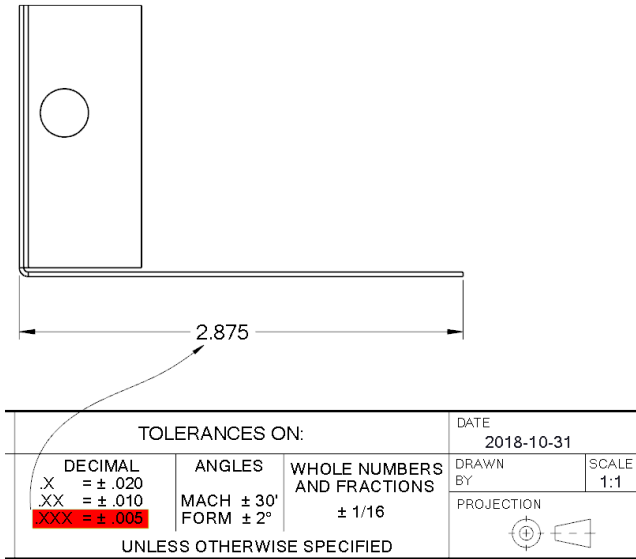

Figure 2a;
- 3) DON'T rely solely on the default tolerance table! Besides specifying the tolerance based on the number of decimal places, the same table almost always states UNLESS OTHERWISE SPECIFIED. Even if you have modified your default tolerance table (as suggested in points 1 & 2 above), there may be features that can afford greater tolerances (that may otherwise be cost-drivers). If so, override (..OTHERWISE SPECIFY...) the default tolerance by adding the more relaxed tolerance right after the dimension. Figure 2a below shows a dimension of 2.875, which in the case of the associated default tolerance table, would carry a tolerance of ± .005". In fact this is not only tighter than necessary, but say that it can also never be below 2.875, override the